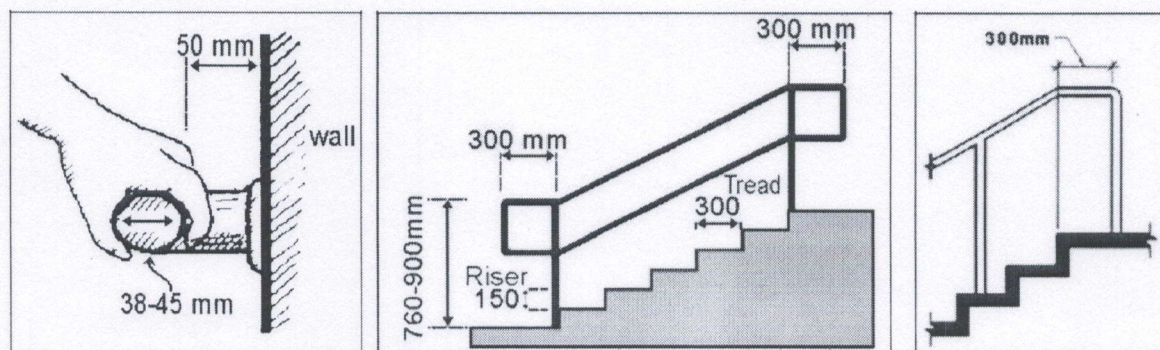

Figure 10.1: Grab Bar details
- have a circular section of 38-45 mm in diameter (Figure 10.1);
- have a minimum clear space of 50 mm from the walls (Figure 10.1);